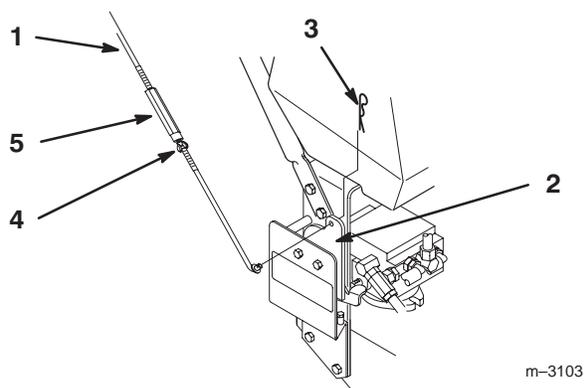

Figure 4
1. Slide rod into control bracket and secure with hairpin cotter (Fig. 4).
3. Loosen wing nut on right control rod and rotate turnbuckle in or out to change tracking. Secure turnbuckle in position with wing nut (Fig. 4).